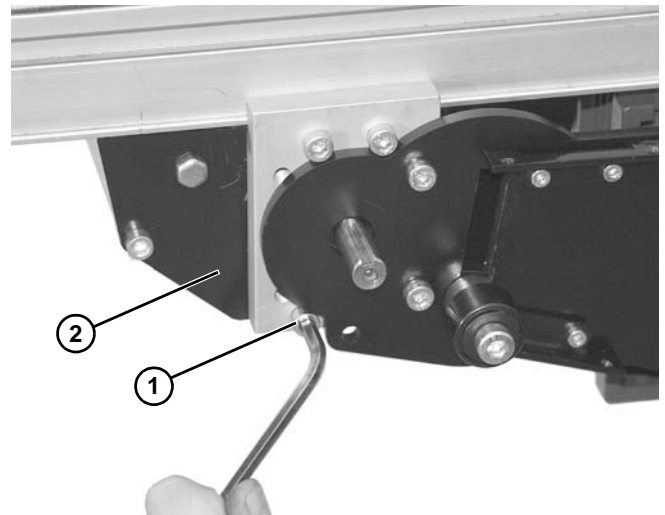

Figure 53
2. Remove two M6x25 socket head screws (Figure 53, item 1) from bottom of mid drive assembly (Figure 53, item 2).